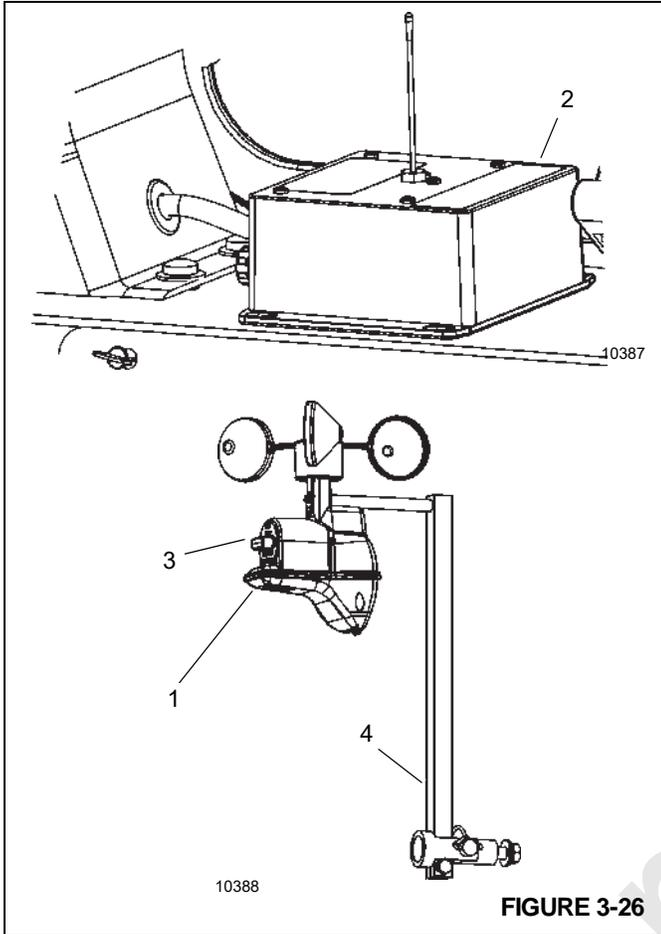

FIGURE 3-26
The cranes feature an optional wind speed indicator to measure wind speed at the end of the boom. The wind speed indicator features a radio anemometer assembly and a wireless gateway router. The anemometer (1, Figure 3-26), which captures wind speed data at the end of the boom or jib, is battery powered and communicates wirelessly with the gateway router (2) located in the crane cab. The gateway router receives data from the anemometer and routes the
2. Remove the battery cover (Figure 3-26) and old battery from the anemometer.